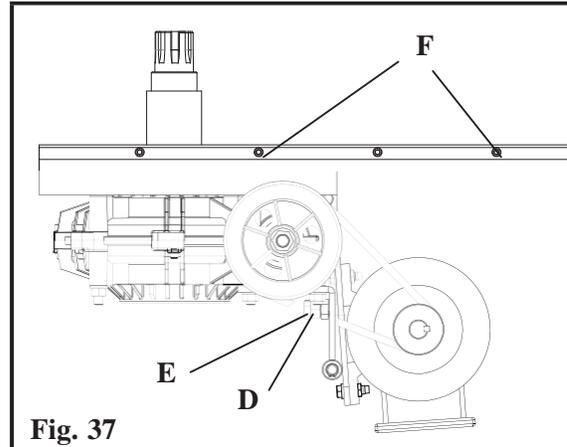

Fig. 37
- Adjust the drive belt tension properly by unloosing or tightening the screw (D-fig.37) then secure the nut (E-fig.37).
- Adjust the screws (F-fig.37) along the slide properly so as to make the turntable movement smoothly.